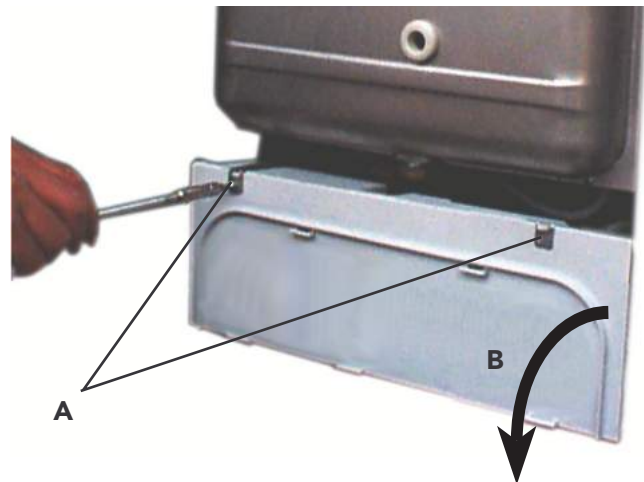

Fig. 24
### 7.03 To lower the control panel (fig. 24)
- Remove the two fixing screw (fig. 24) "A"